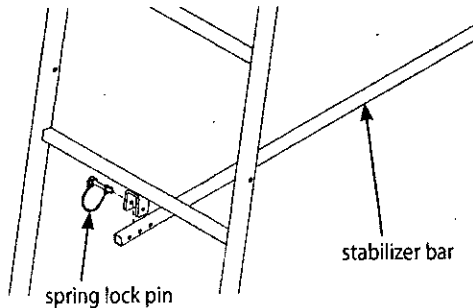

Figure 4
6. Attach the stabilizer bar (L17) to the second ladder section mounting bracket using (1) provided spring lock pin. Spring lock pin must be put in appropriate hole to achieve desired distance from tree. Adjustment in length may be needed when ladder is uprighted later in instructions. **SEE FIGURE 4.**